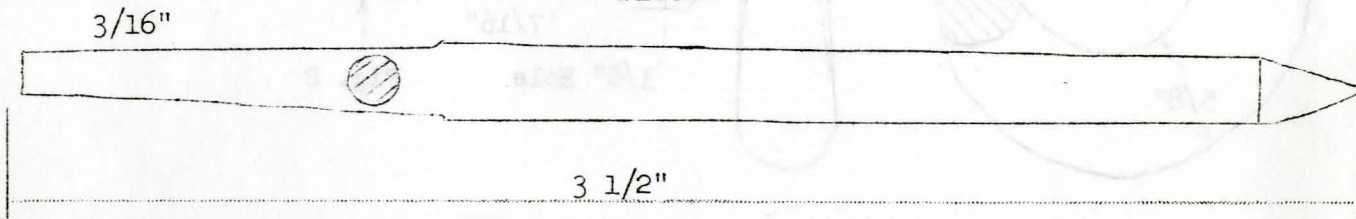

FIGURE 2
STEP 2--Point one end, draw and round the other, Fig. 2.